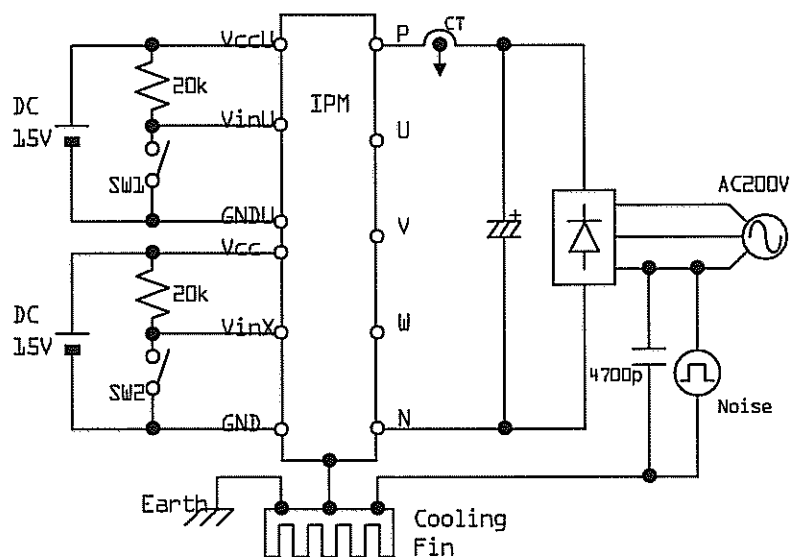

Figure 5. Noise Test Circuit
7. Noise Immunity ノイズ耐量 (V_{dc}=300V, V_{cc}=15V, Test Circuit Fig 5.)